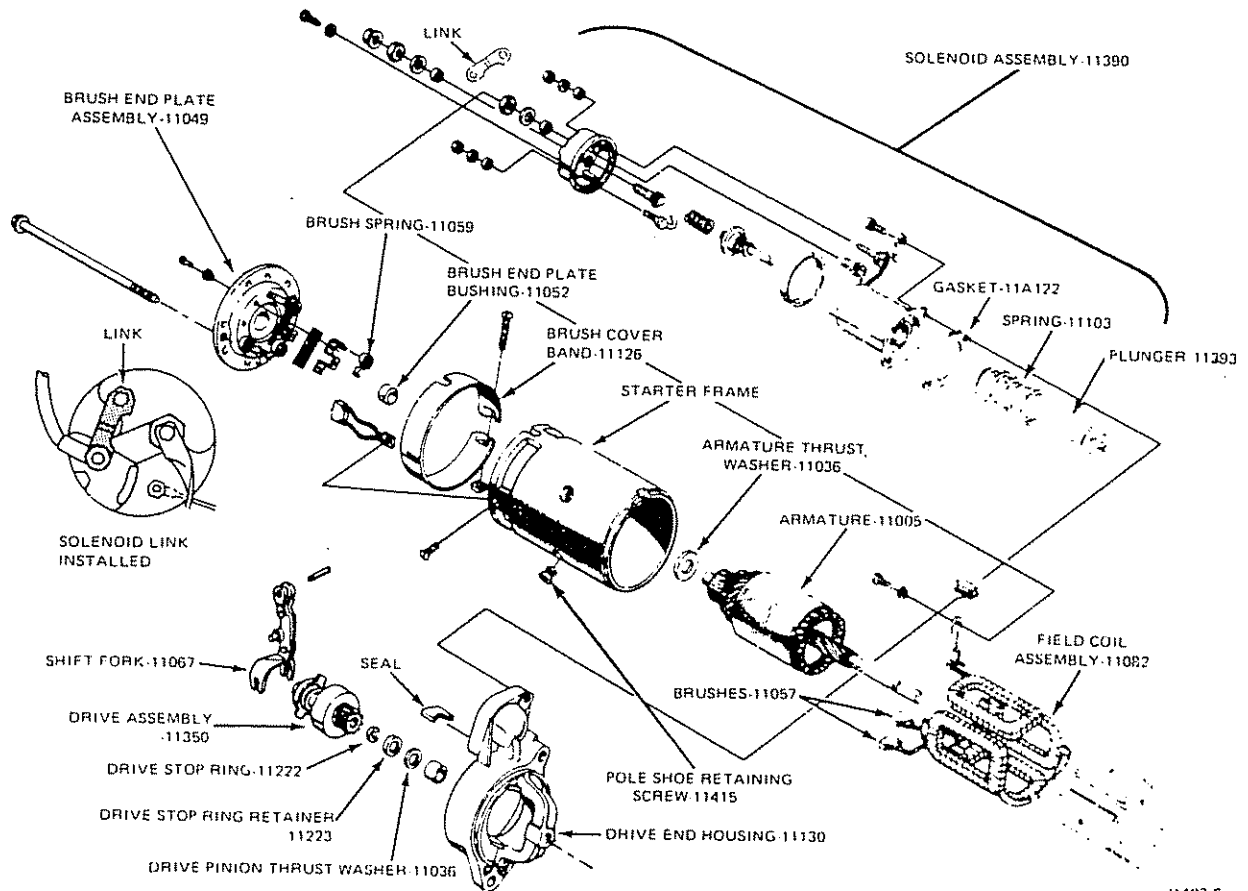

Fig. 15 - Starter Disassembled Solenoid Type
1. Disconnect the copper strap from the starter terminal on the solenoid, remove the retaining screws and remove the solenoid from the drive housing (Figure 15).
1. Install a small amount of lubriplate on the armature shaft splines. Install the drive assembly on the armature shaft and install a new stop ring (Figure 15).